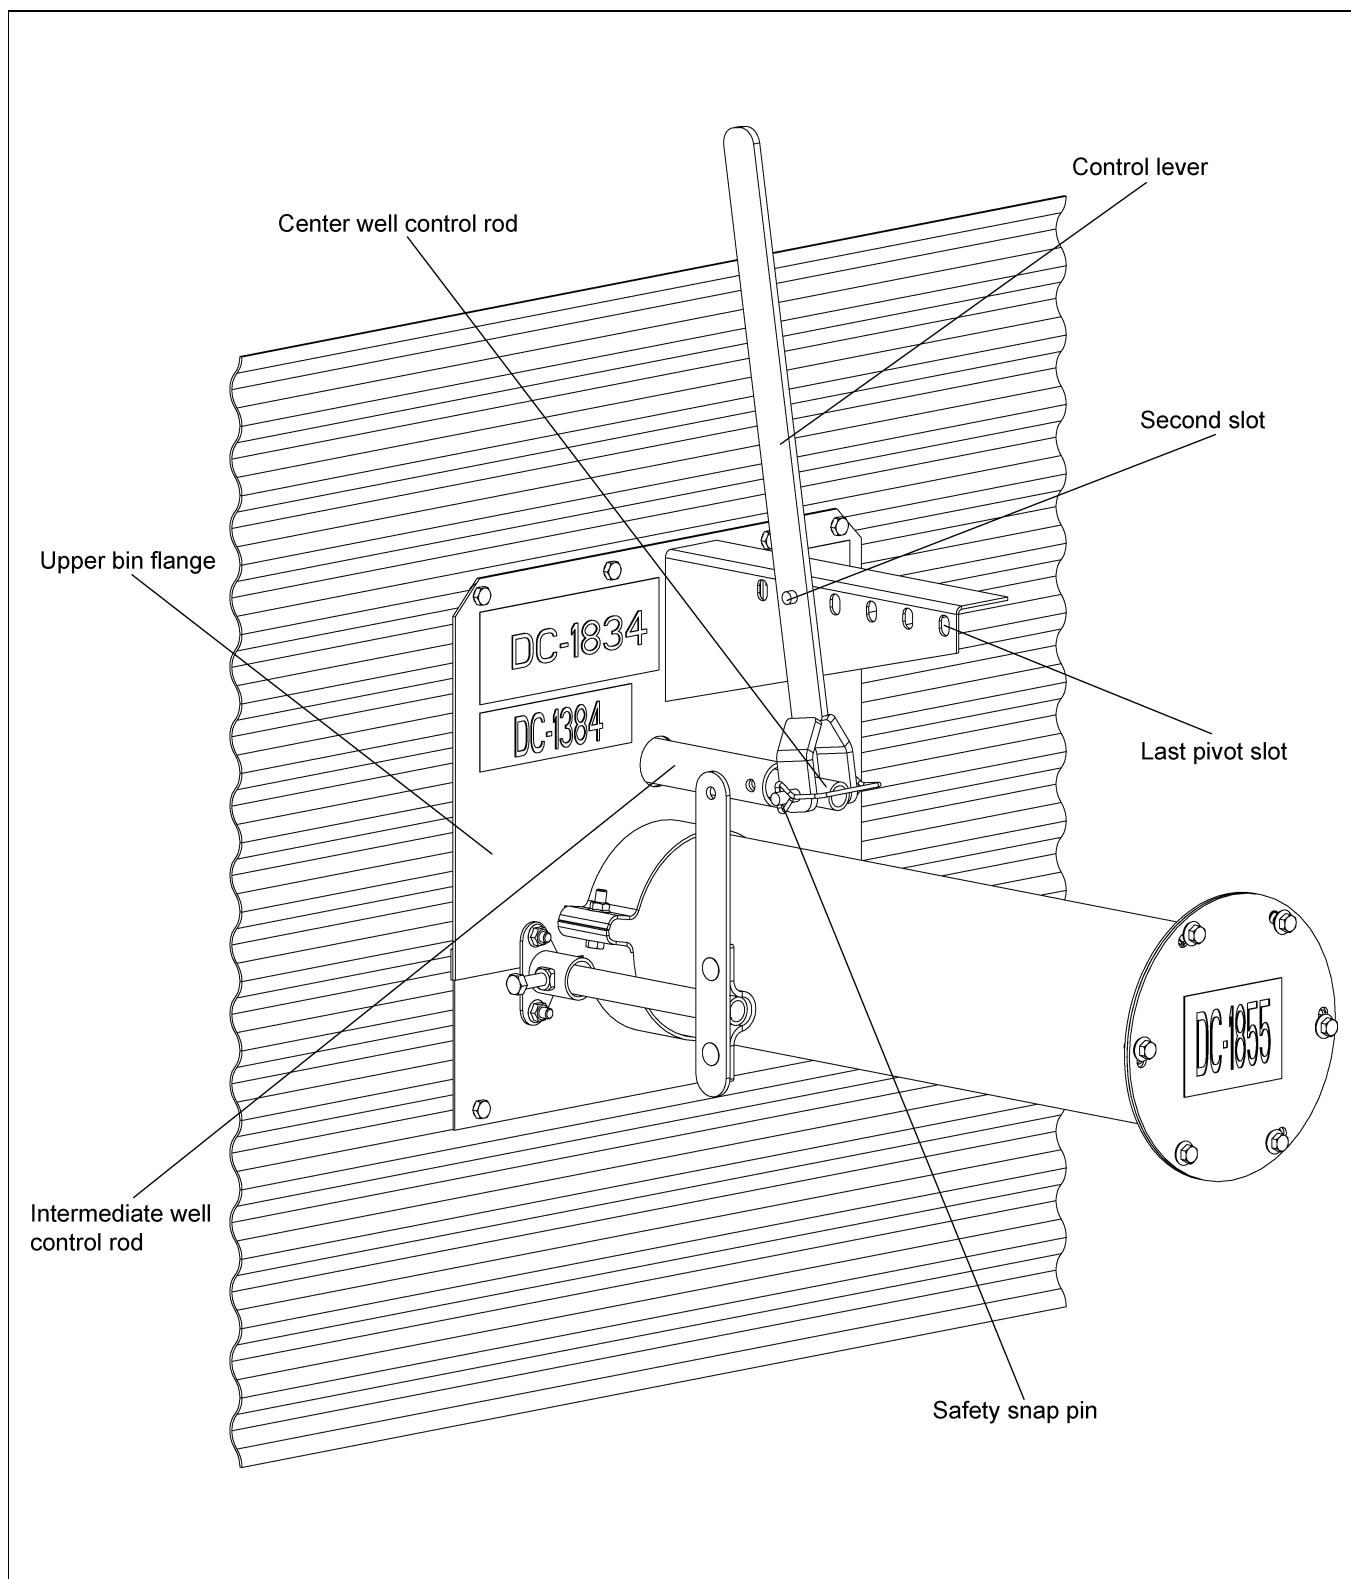
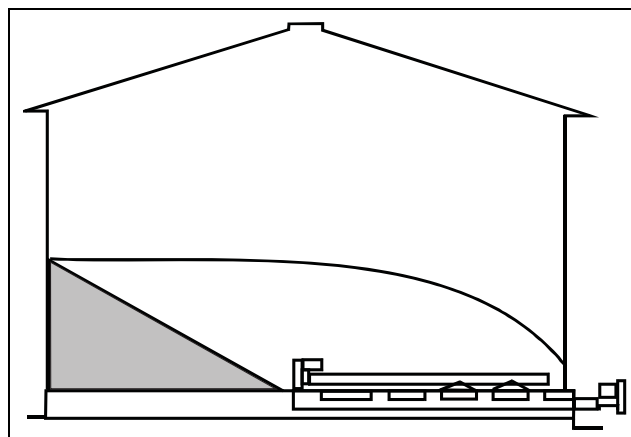

Figure 5C
Figure 5F
2. The safety snap pin should be inserted through the center well control rod and the control lever. Make sure it has NOT been inserted through the intermediate well control rod. (See Figure 5C on Page 41.)
3. Place control lever in the second slot and pull lever to open gradually until the desired flow is established. (See Figure 5C on Page 41.) It should not be necessary to open the gate more than 3" to 6".
- Gradually open gates using the middle pivot slot until the desired flow of grain is reached. You should not open the gates more than 2" to 4". If gates need to be opened further, use the last slot for more leverage. (See Figure 5C on Page 41.) The remaining grain should look similar to Figure 5F.
6. Gradually open the gates until the desired flow of grain is reached. You should not open the gate more than 2" to 4". The remaining grain should look like Figure 5F on Page 42.